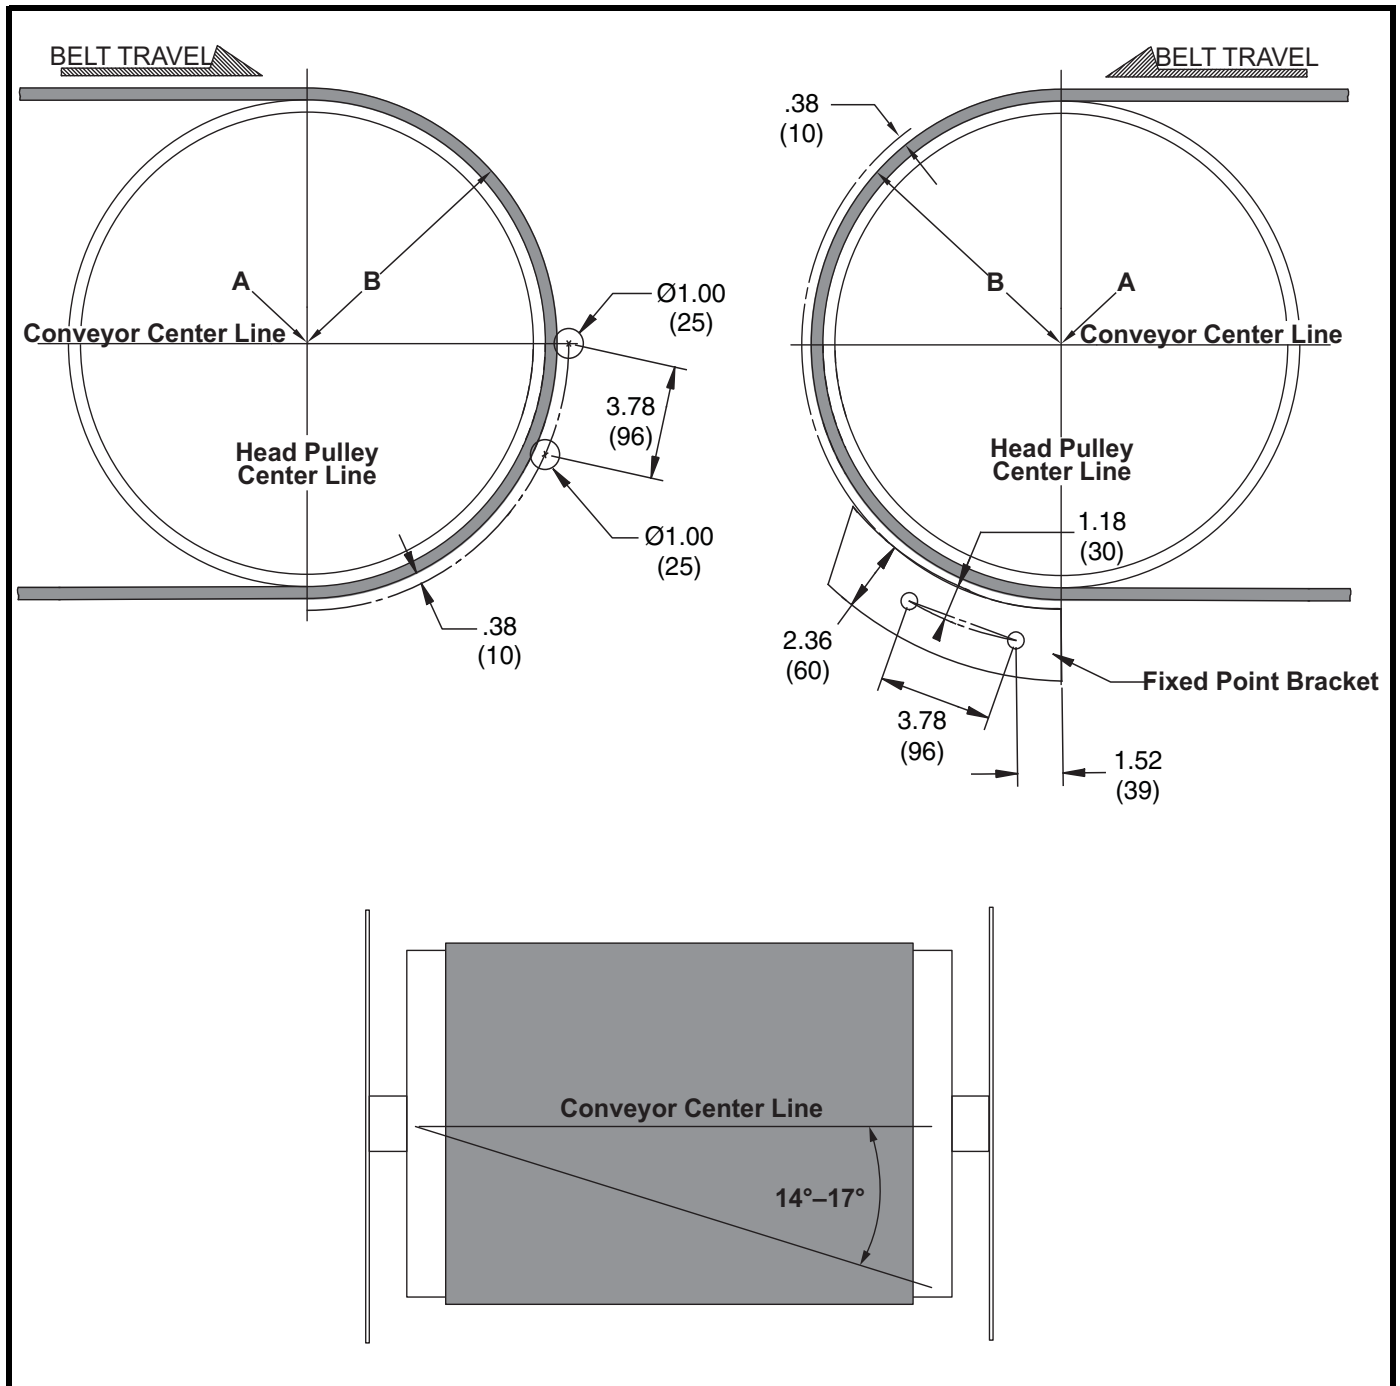

Figure 2. Belt Cleaner Location & Chute Wall Cutouts
1. On both sides of chute, find pulley center point (A).
2. Measure radius of head pulley including lagging and belt thickness (B). To this dimension, add dimension 3/8 in. from Figure 2.
3. On the far side of chute, start from center point (A), measure the total distance calculated in step 2 ($B + 3/8$ in.), and draw an arc on chute wall.
4. On the operator side of chute, start from center point (A), draw an arc on chute wall with a radius of ($B + 3/8$ in.).
- (1) Position fixed point bracket on far side chute wall as shown in Figure 2.
- (2) Mark bracket hole locations.
- (3) Drill or cut two 1/2-in. holes for screws in far side chute wall.
- (4) Mount fixed point bracket to inside of far side chute wall using countersunk screws and nuts.
- (2) Weld bracket to chute wall. Weld completely around bracket. Do not skip weld.
- b. Mark chute wall cutouts as shown in Figure 2.